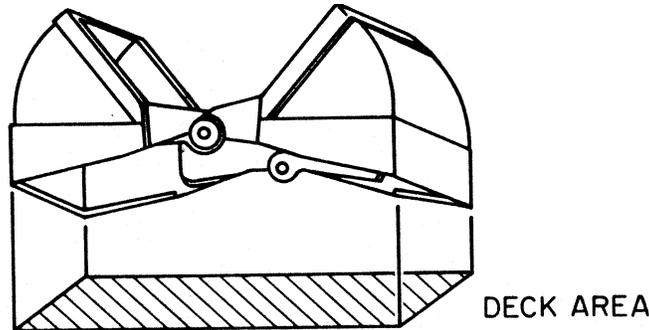

FIGURE 5—CLAM BUCKET DECK AREA
- 3.7 Clam Bucket**—SAE deck area. The deck area shall be the area of the shaded portion shown in Figure 5. This area shall be the product of the outside width of the lips times the open length of the lips.